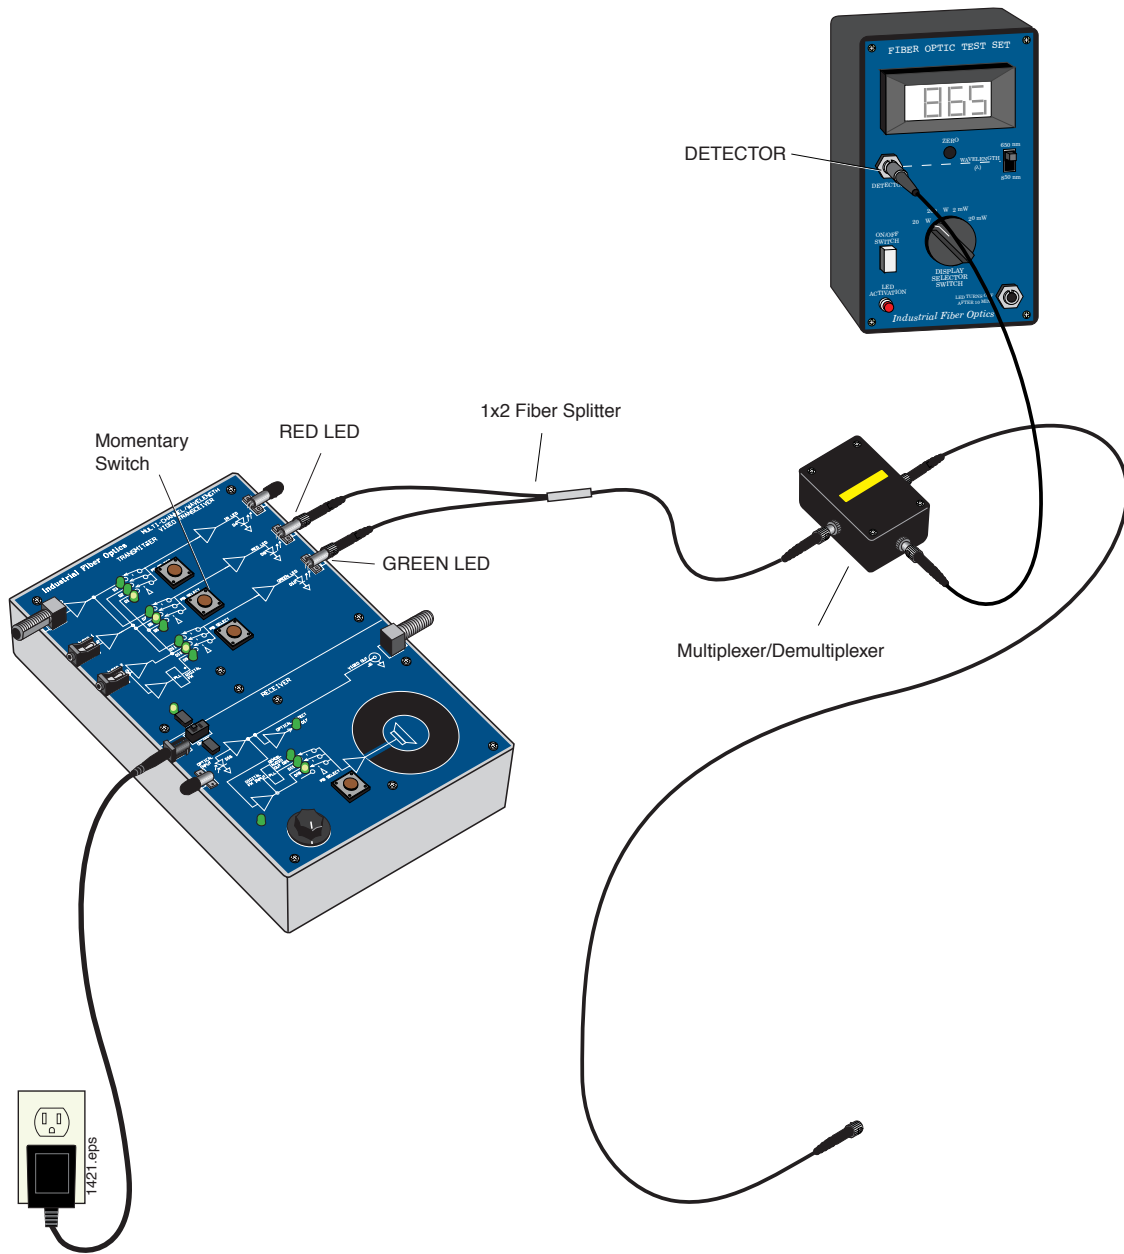

Figure 33. Measuring the optical power leaking through the optical demultiplexer.
7. Attach the 1-meter fiber attached to the ST port on the demultiplexer labeled “RED” to the Test Set photodetector as shown in Figure 33.